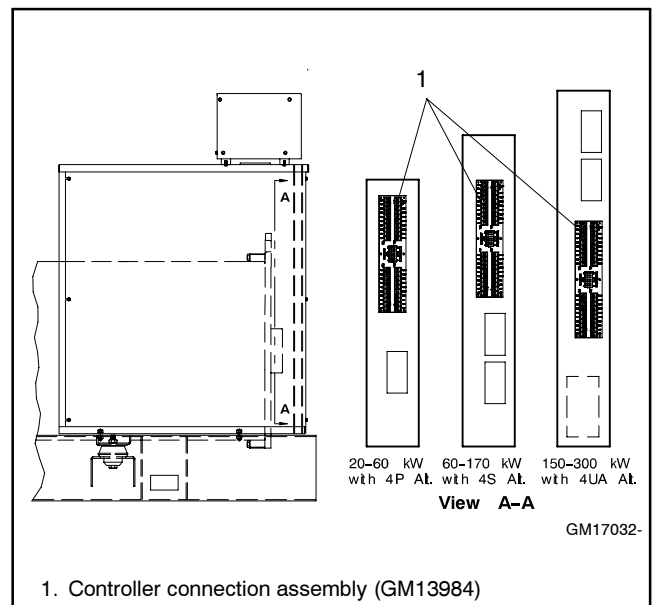

Figure 2 Controller Connection Assembly Mounting Locations in Junction Box (20-300 kW)
- 2.1.1 Remove the junction box rear panel and hardware. See Figure 2.
- 2.1.2 Attach the controller connection assembly (GM13984) to the junction box using six screws (X-51-3), spacers (X-712-9), and nuts (X-6210-4). Place the spacers between the controller connection assembly and the junction box bracket. See Figure 2 for the mounting location.